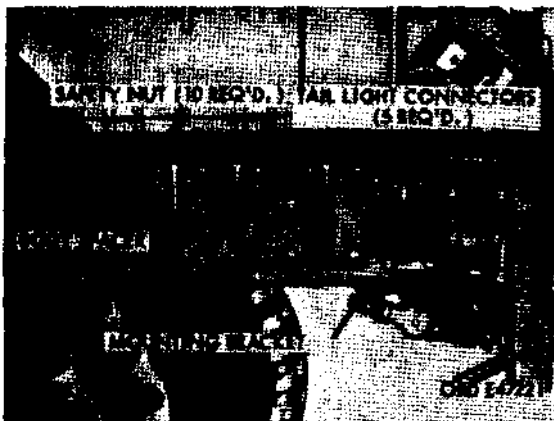

Figure 433. Crane body mounting at rear of left frame side rail (M62)
- (5) Remove ten safety nuts (fig. 433), five from each side, securing front of crane body to mounting brackets bolted to rear of left and right frame side rails.
- (6) Disconnect five bayonet-type taillight cable connectors (fig. 433), three at left rear corner of vehicle and two at right rear corner. Remove two clamps securing taillight cables to each side of crane body, and pull cables and connectors through body.
Not.. Before lowering body, make sure that body spacers (fig. 433) are in position on frame side rails, and aline U-bolts (fig. 416) with holes in body.
- (2) Install ten safety nuts (fig. 433), five on each side, on hex-head bolts extending through body and brackets bolted to left and right frame side rails.
- (3) Pull taillight cables through crane body, and secure with two clamps to each side of body. Connect five bayonet-type taillight cable connectors (fig. 433), three at left rear corner of vehicle and two at right rear corner.